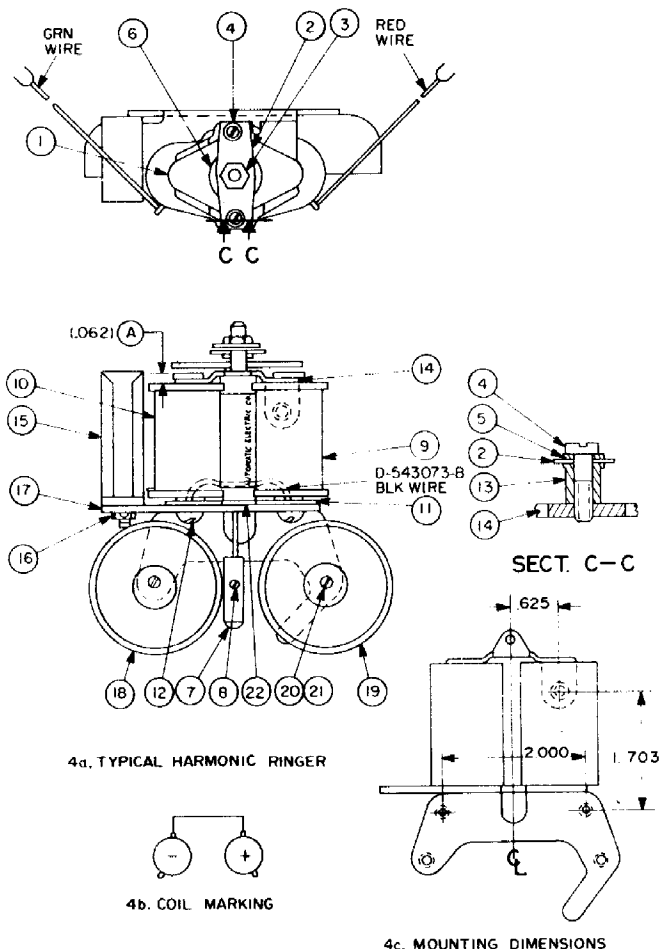
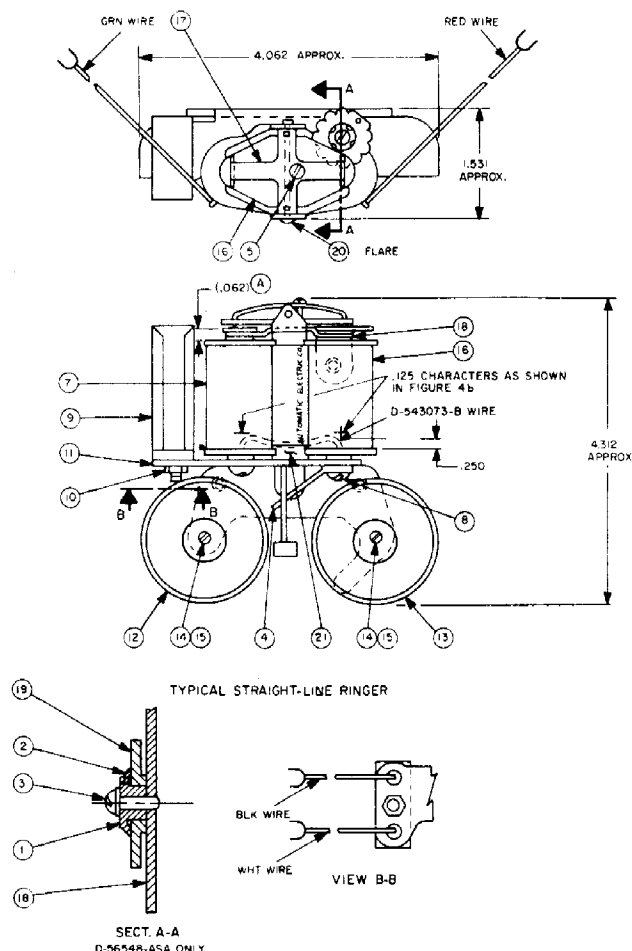

Figure 4. Type 45 Frequency Ringer.
Figure 5. Type 45 Straight-Line Ringer.
7.01 The Type 45 Ringer (Figures 4 and 5) is essentially composed of two gongs, two ringer coils, and the clapper mounted on a heelpiece. An extension of the ringer heelpiece serves as the capacitor mounting bracket. This ringer is used in the Type 80, 80E, 82, 85, 88-T, 90M, 95 Telephone Sets and the Type 33 Ringer Unit. This assembly can also be equipped to function as a straight-line, superimposed, or harmonic ringer. The Type 45 ringer is supplied with standard A coils. When superimposed ringing is desired, the ringer capacitor on the ringer is replaced by a cold cathode tube. Refer to Tables 11 and 12 for a complete component
7.03 To disassemble the Type 45 ringer (Figure 4 or 5) (part items referred to are called out in that order), proceed as follows:
- Remove the two gong screws (items 20, 4) and lock washers (items 21, 15) located inside the gong shells to free each gong (items 18, 19 and 12, 13).
- Remove the adjustable wheel (Figure 5) (item 19) from the coil core support by removing the adjusting wheel screw (item 3) and washer (item 2) from the center of the adjustable wheel.
- Disengage the bias spring from the bias spring holder (item 4, 1). Remove the two coil mounting screws (items 12, 8) from the base of the ringer and gong mounting bracket.
- Remove the front and rear magnet bars (items 22, 21) located between the coils (items 9, 10 and 6). Slide each coil outward and away from the coil support until the coil cores and coils are free.
7.04 To assemble the Type 45 Ringer (Figure 4 or 5), proceed as follows:
- Elevate the armature (item 16, 9) and coil core support enough to slide each coil core into the U-shaped slot on each side of the coil core support.
- Situate the two rectangular shaped magnets (items 22, 21) into the plastic inserts located at the top and bottom of each coil.
- Install the left coil screw (item 12, 8) and secure. Place the bias adjuster (item 4, 1) over the threads of the right coil screw (item 12, 8) then insert and fasten. Position the bias spring in the bias adjuster notch so that the clapper weight (item 7, 13) will be centrally located between the gongs.
- Position the adjustable wheel (item 19) (if equipped) over the extended flange of the coil core support at the rear of the right coil. Install and fasten the washer (item 2) and screw (item 3) at the top of the wheel.
- Place the gongs (items 18, 19, 12, 13) over the mounting hole on the ringer and gong mounting bracket. Insert and secure the two gong mounting